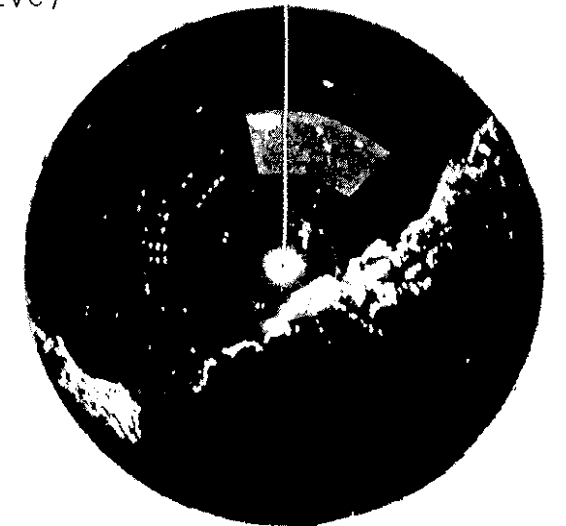

Fig.1-1 Guard Zone Marker
MARKER: Guard zone appears on the screen as shown in Fig.1-1. Set the guard zone with RANGE and SECTOR controls.
- 2) Turn the FUNCTION switch to "MARKER" position. A guard zone will appear on radar screen as shown in Fig.1-1.